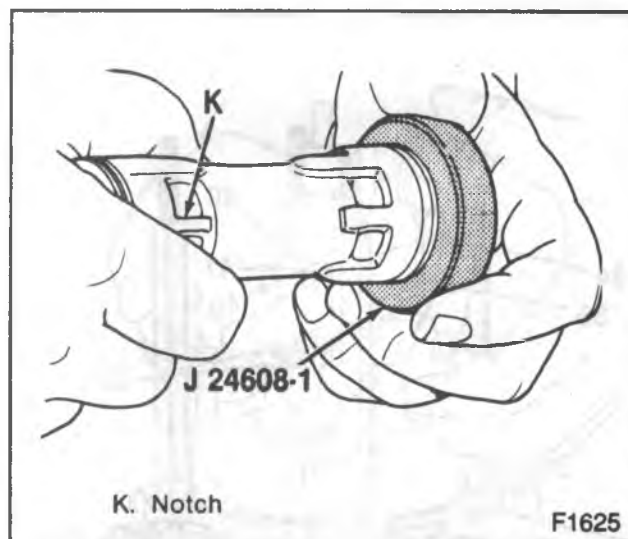

Figure 39—Gaging the Piston Ring Size
- 5. Piston (32) to J 24608-1 (figure 39).
- The piston (32) should pass through the ring gage with a two to eight pound force.
- 6. Repeat for the opposite end of the piston (32).
- 7. Lubricate both ends of the piston (32) with 525 viscosity refrigerant oil before installing the piston into the cylinder bore.